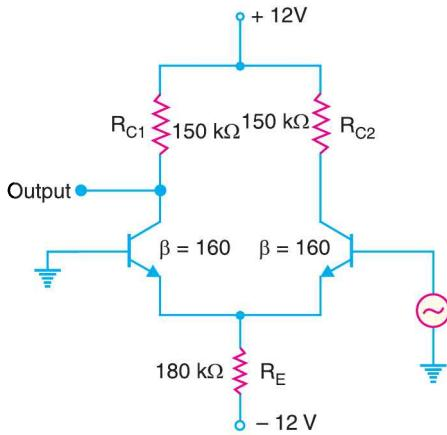

Fig. 25.100
6. For the circuit shown in Fig. 25.100, determine (i) common-mode voltage gain (ii) differential-mode voltage gain (iii) CMRR.